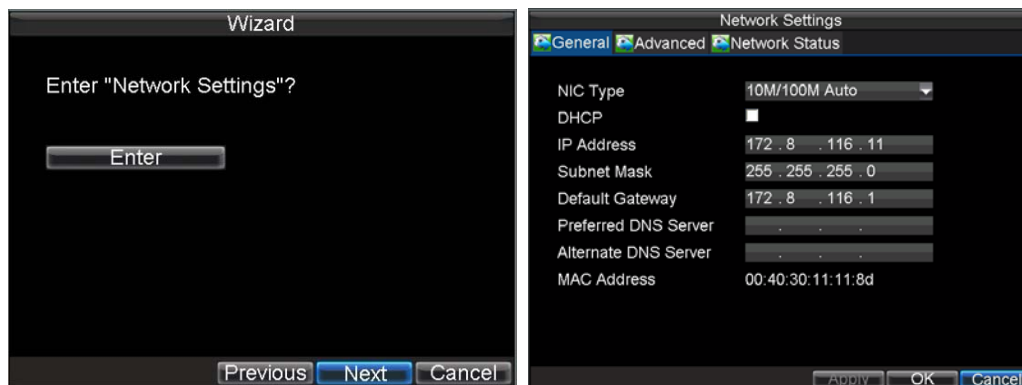

Figure 9. Network Settings
15. Click *Next* button to access the **Network Settings** dialog box, shown in Figure 9.